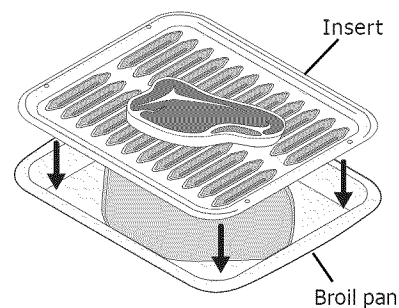

Fig. 2
5. Place the insert on the broil pan (if equipped), then place the food on the broil pan insert (Fig. 2).